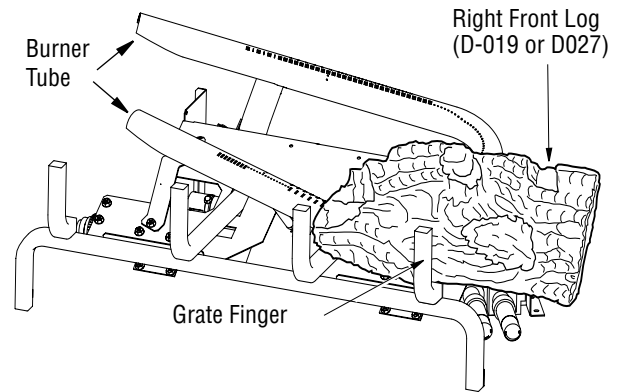

Figure 18 - Installing Right Front Log
1. Find the right front log (LMF30GTA/B or LMF30MOA/B models: D-019, LMF36GTA/B or LMF36MOA/B models: D-027). See **Figures 18, 18A, 18B, and 18C** for reference. The log has a rectangular shape on the bottom that fits against the lip on the black metal base, the square grate, and the round tube burner. Slide the log in place as shown in figures.